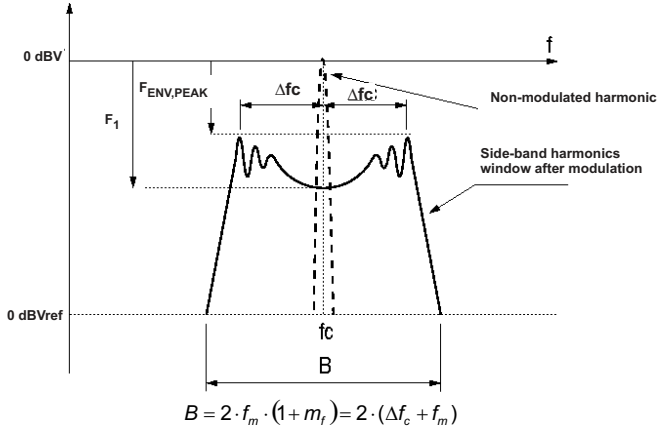
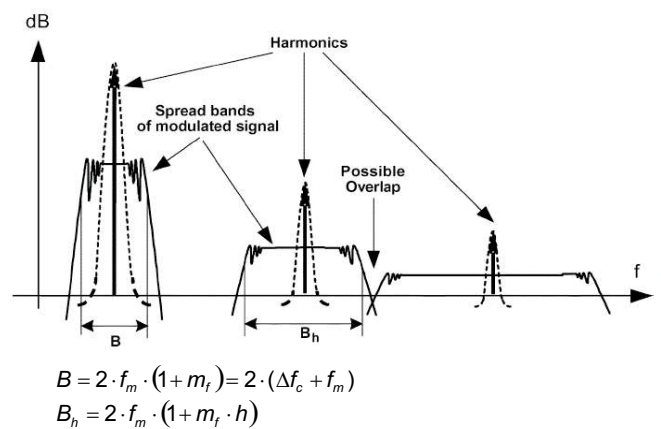

Figure 39. Spectrum of a Frequency Modulated Sin. Wave with Sinusoidal Variation in Time
Figure 40. Spread Bands of Harmonics in Modulated Square Signals (1)
(1) Spectrum illustrations and formulae (Figure 39 and Figure 40) copyright IEEE TRANSACTIONS ON ELECTROMAGNETIC COMPATIBILITY, VOL. 47, NO.3, AUGUST 2005. See REFERENCES Section for full citation.